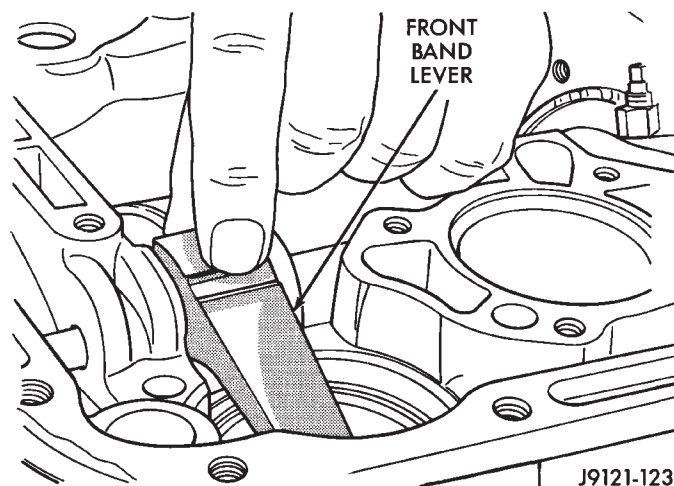
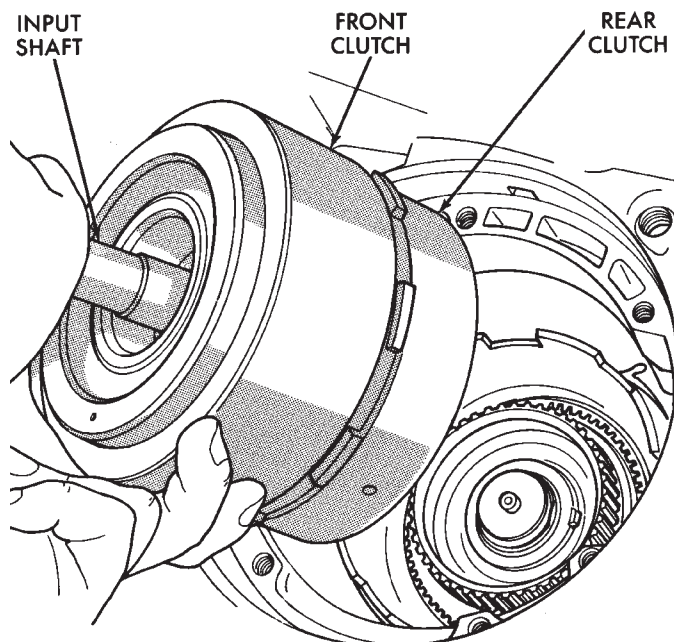

Fig. 93 Removing/Installing Front Band Lever
Fig. 94 Removing Front/Rear Clutch Assemblies
(19) Remove front band lever (Fig. 93).
(20) Remove front band lever shaft plug, if necessary, from converter housing.
(21) Remove front band lever shaft.
(22) Remove front and rear clutch units as assembly. Grasp input shaft, hold clutch units together and remove them from case (Fig. 94).